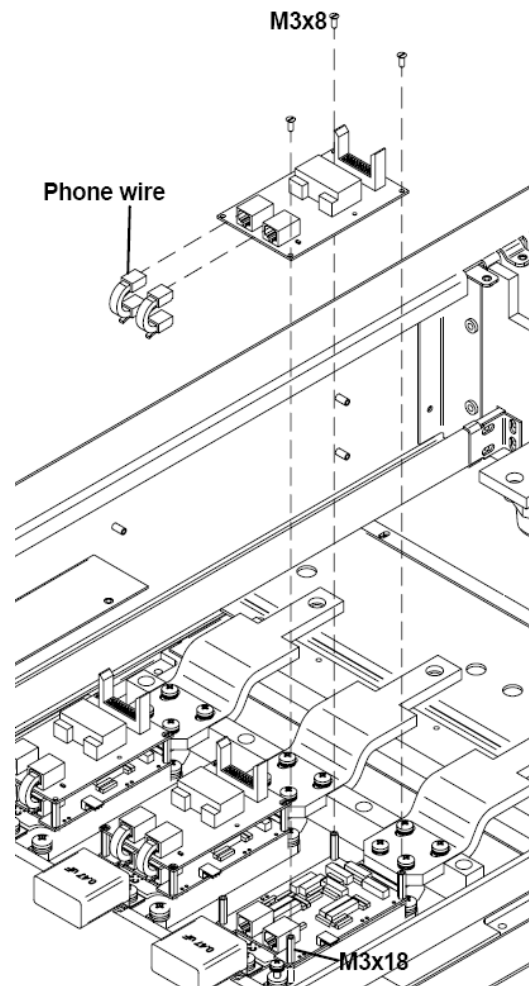

Figure 4.17. Assembly of the Upper Gate Drive
Follow *figure 4.17* while reading these instructions:
- 2) Place the next board on the hexagonal spacers **M3x18**. (*figure 4.17*).
Follow figure 4.17 (a) and figure 4.17 (b) while reading these instructions: